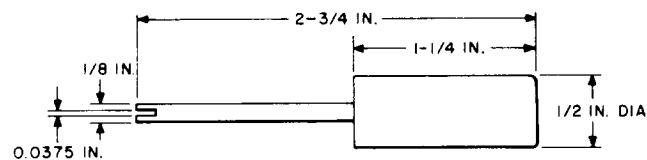

Fig. 14—KS-19915, L1, Adjuster
2.15 KS-19915, L1: The KS-19915, L1, adjuster (Fig. 14) is for use in adjusting contact separators on the BF-, BG-, BJ-, and BL-type relays.